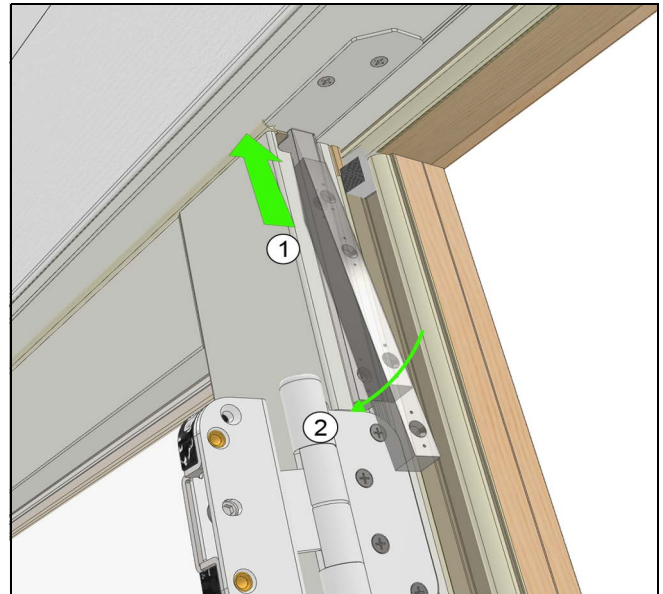

Figure 15
3. Seat the lock bar into the panel Eurogroove and up into the head jamb strike aligning top hole on lock bar to the removed screw hole already in the panel. Be mindful not to overshoot the bolt as this will cause the head jamb to bow upward. See Figure 15.